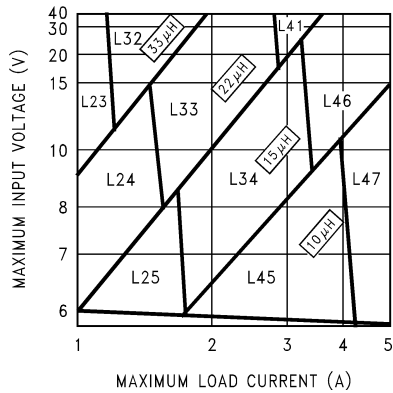
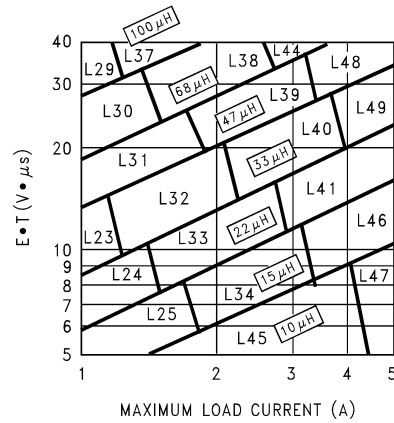

Figure 21. LM2678-3.3
Figure 24. LM2678-ADJ
Step 3: Determine the inductor required by using one of the four nomographs, Figure 21 through Figure 24. Table 1 provides a specific manufacturer and part number for the inductor.
Step 5: Determine an input capacitor from Table 6 for fixed output voltage applications. Use Table 3 to find the specific capacitor type. For adjustable output circuits select a capacitor from Table 3 with a sufficient working voltage (WV) rating greater than $V_{in\ max}$, and an rms current rating greater than one-half the maximum load current (2 or more capacitors in parallel may be required).
Step 3: Use the nomograph for the 3.3V device, Figure 21. The intersection of the 16V horizontal line ($V_{in\ max}$) and the 4A vertical line ($I_{load\ max}$) indicates that L46, a $15\mu\text{H}$ inductor, is required.
Step 3: To use the nomograph for the adjustable device, Figure 24, requires a calculation of the inductor Volt•microsecond constant ($E \cdot T$ expressed in $V \cdot \mu S$) from the following formula:
Using Figure 24, the intersection of $27V \cdot \mu S$ horizontally and the $3.5A$ vertical line ($I_{load \max}$) indicates that L48, a $47\mu H$ inductor, or L49, a $33\mu H$ inductor could be used. Either inductor will be suitable, but for this example selecting the larger inductance will result in lower ripple current.
When using the adjustable device in low voltage applications (less than $3V$ output), if the nomograph, Figure 24, selects an inductance of $22\mu H$ or less, Table 12 and Table 13 do not provide an output capacitor solution. With these conditions the number of output capacitors required for stable operation becomes impractical. It is recommended to use either a $33\mu H$ or $47\mu H$ inductor and the output capacitors from Table 12 and Table 13.